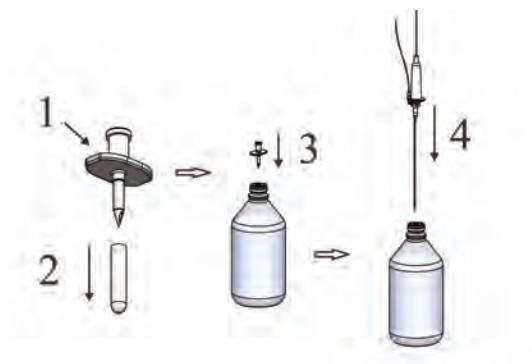

Figure 4.38. Steps for Inserting Spike into BSS Bottle.
6. Insert the spike into the BSS bottle, following the steps listed in Figure 4.38.